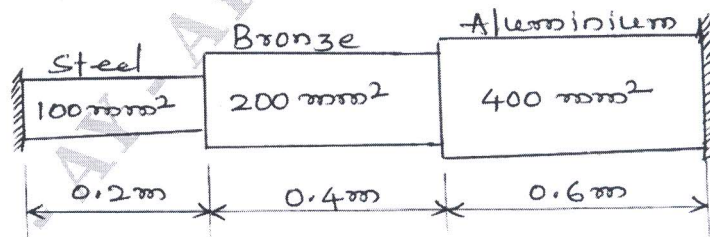

Fig.Q2(b)
- b. A compound bar consisting of steel, copper and aluminium bars connected in series is held between two supports as shown in Fig.Q2(b). When the temperature of the compound bar is increased by 50°C , determine stresses induced in each bar. Consider the two cases i) rigid supports and ii) supports yield by 0.5mm. Take $\alpha_S = 12 \times 10^{-6}/^\circ\text{C}$, $\alpha_B = 19 \times 10^{-6}/^\circ\text{C}$, $\alpha_{Al} = 22 \times 10^{-6}/^\circ\text{C}$, $E_S = 200\text{GPa}$, $E_B = 83\text{GPa}$, $E_{Al} = 70\text{ GPa}$. (08 Marks)